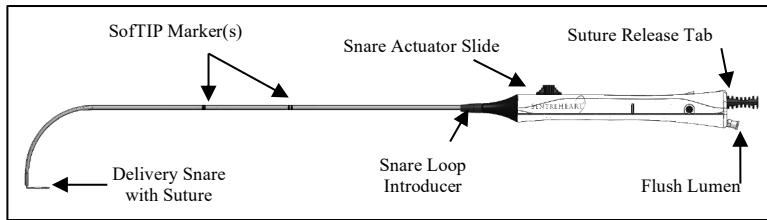

Figure 1 LARIAT RS Suture Delivery Device
The LARIAT RS Suture Delivery Device (Figure 1) is a one-piece, single-use suture delivery and deployment device with a pre-tied size 0 polyester suture loop that is pre-loaded on the device. A lumen within the LARIAT RS is designed for aspiration, flushing during the delivery, capture, or release of the LARIAT RS Suture.
15. Locate the red Suture Release Tab at the back end of the LARIAT RS as shown in Figure 1.